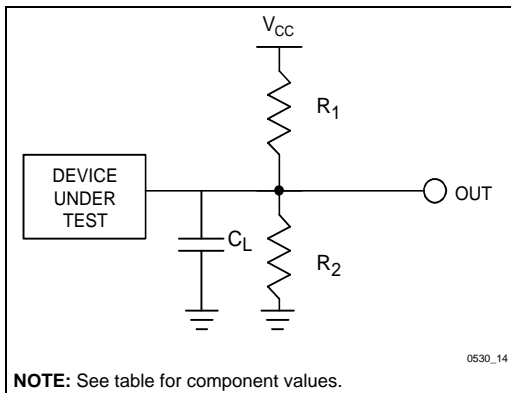

Figure 22. Test Configuration
5. See Test Configurations (Figure 22), 2.7V–3.6V and 3.3 ± 0.3V Standard Test component values.
6. See Test Configurations (Figure 22), 5V Standard Test component values.
9. See Test Configurations (Figure 22), 2.7V–3.6V and  $3.3 \pm 0.3V$  Standard Test component values.
10. See Test Configurations (Figure 22), 5V Standard Test component values.